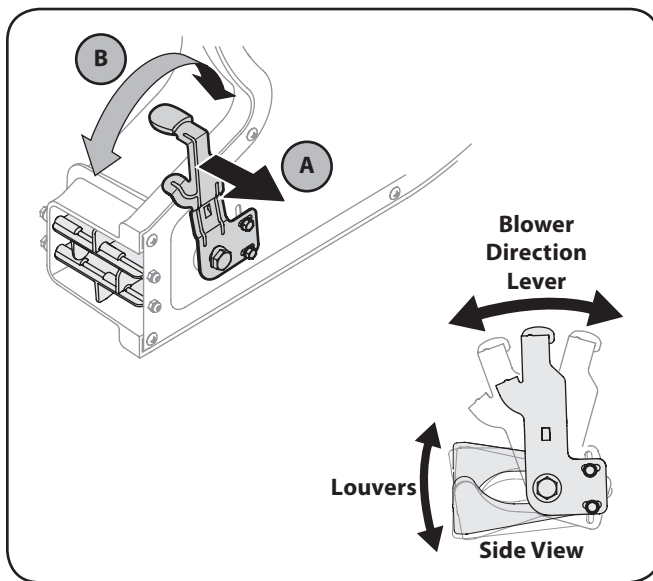

Figure 5-1
1. Pull the lever out and away from the blower. See Fig. 5-1.